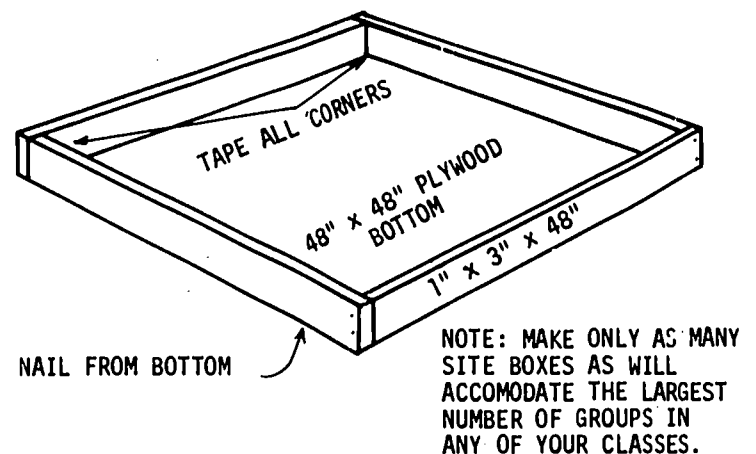

Fig. 56-1. Site Box Construction
- \*Longer boards need not be cut. See Fig. 56-1.